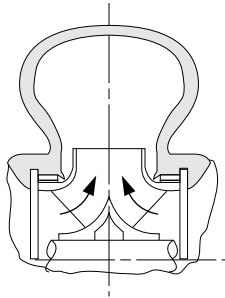

FIGURE 4. Radial Flow, Double Suction
- A pump in which the head is developed principally by the action of centrifugal force. The liquid enters the impeller at the hub and flows radially to the periphery (Figure 4).